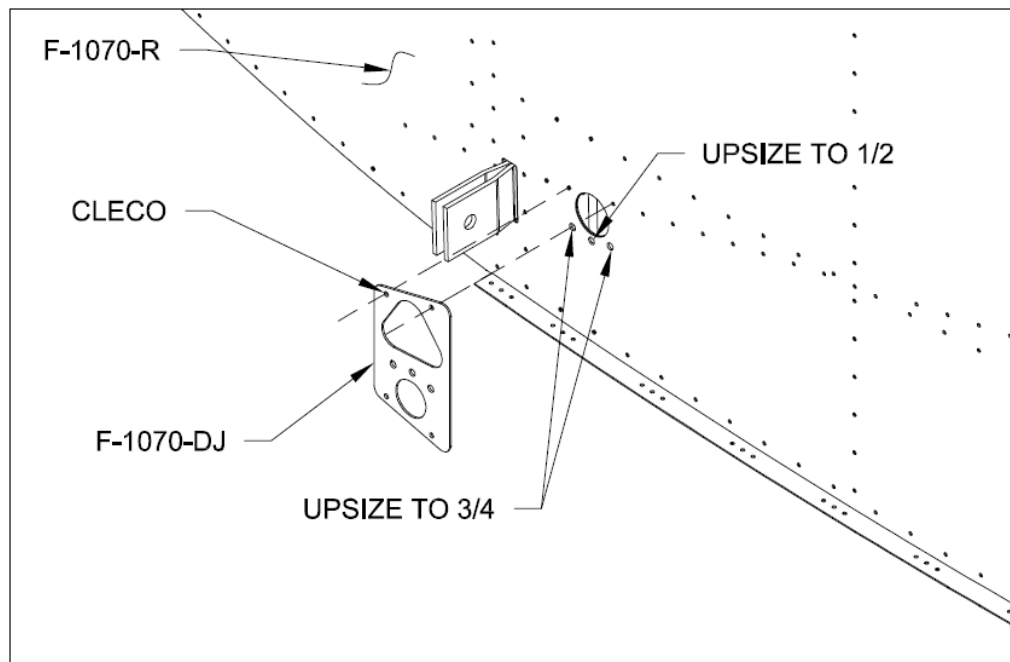

FIGURE 3: UPSIZING HOLES
Step 8: Use a step drill to upsize the two outer holes drilled in the F-1070-R and F-1015A-R to 3/4 as called out in Figure 3.
Step 9: Use a step drill to upsize the middle hole drilled in the F-1070-R and F-1015A-R to 1/2 as called out in Figure 3.
Step 10: Cleco the F-1070-DJ to the F-1070-R and F-1015A-R oriented as shown in Figure 3. The triangular window will be over the 1/2 and 3/4 holes.